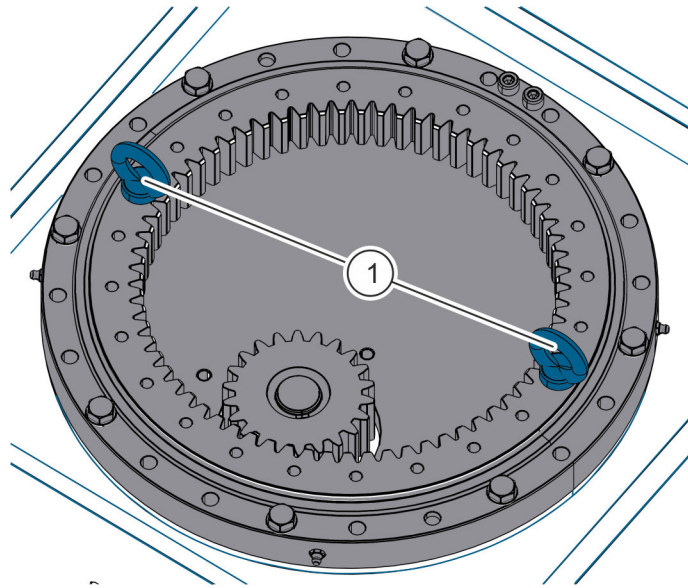

Fig. 11: Mounting eyelets
3. Lift the swivel arm base to the assembly position by the mounting eyelets (Fig. 11/1).